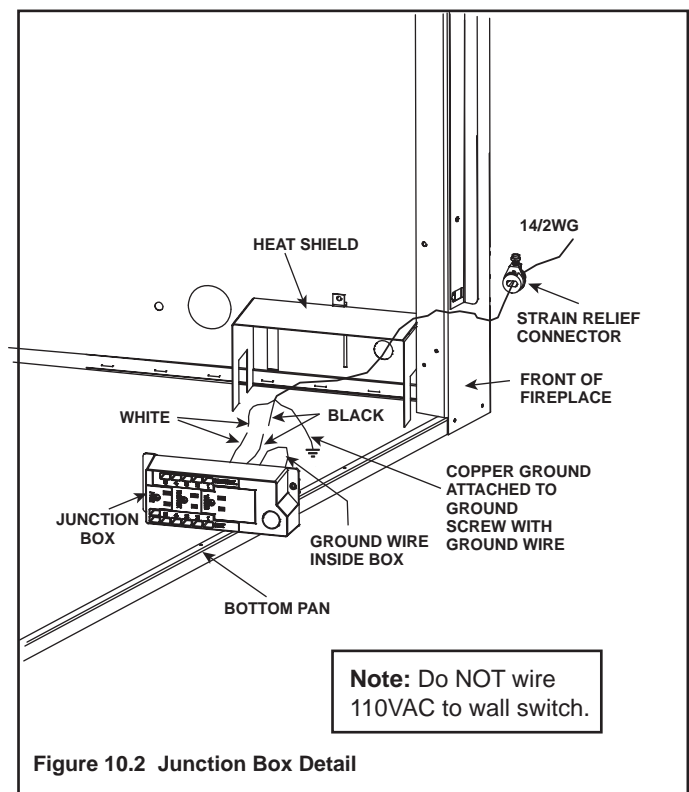

Figure 10.2 Junction Box Detail
- Remove the screw attaching the junction box to the outer shell, rotate the junction box inward to disengage it from the outer shell (see Figure 10.2).